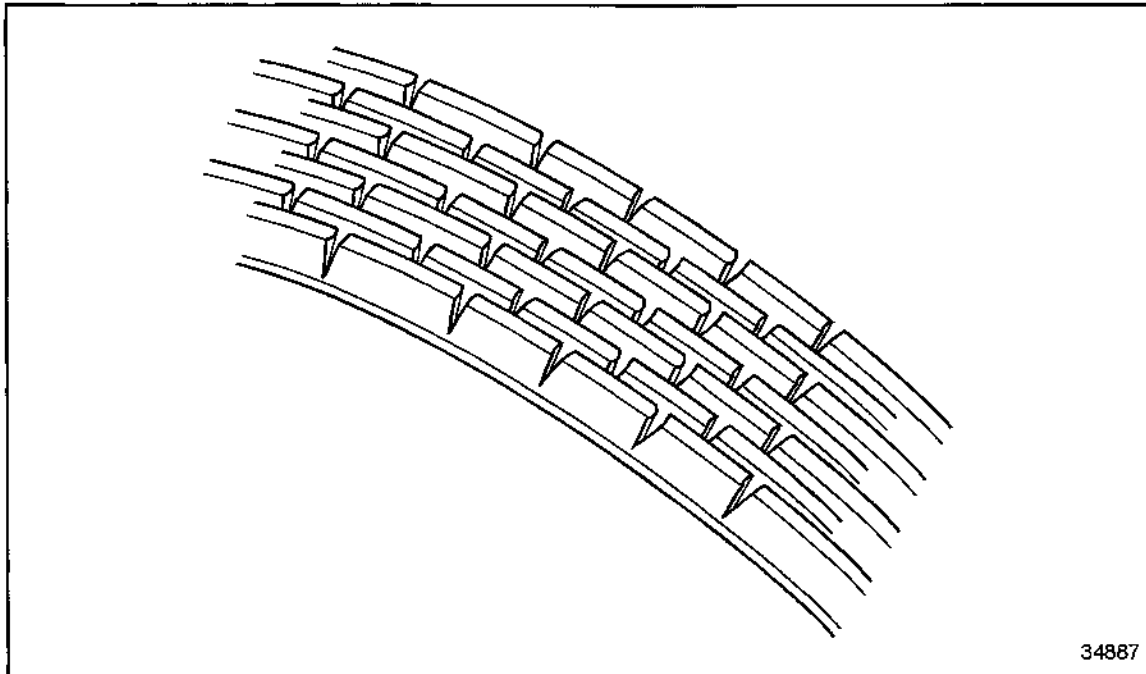

Figure 33 **Broken Ribs**
2. The vee-ribbed belts must be replaced if the ribs are broken around the entire circumference. See Figure 33.